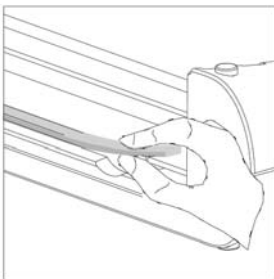

Fig. 6
- 2 Remove the blade out of the slot from the other side (Fig. 6).